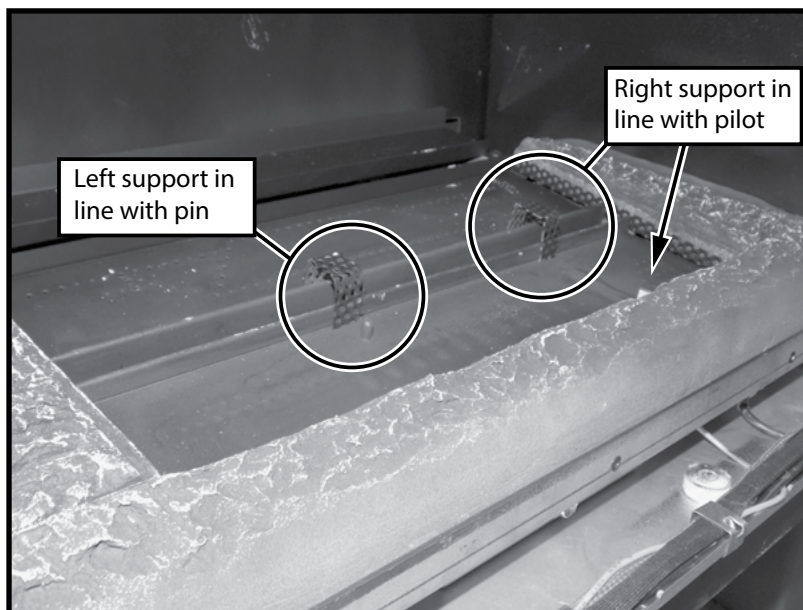

Figure 95: Supports for 2nd log.
5. Straddle the two 2nd log supports between the rear of the front burner and the leading edge of the rear burner. Position them as shown in Figure 95.
9. Place the 2nd log so that it lays on top of the two log supports previously installed (Figure 95). The right hand end of the log should be making contact with the right hand firebox corner (Figure 99).